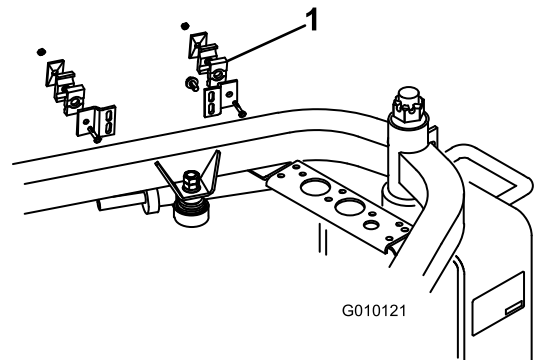

Figure 5
- Secure the hose clamp brackets to the frame as shown in Figure 5 with 4 self tapping screws.